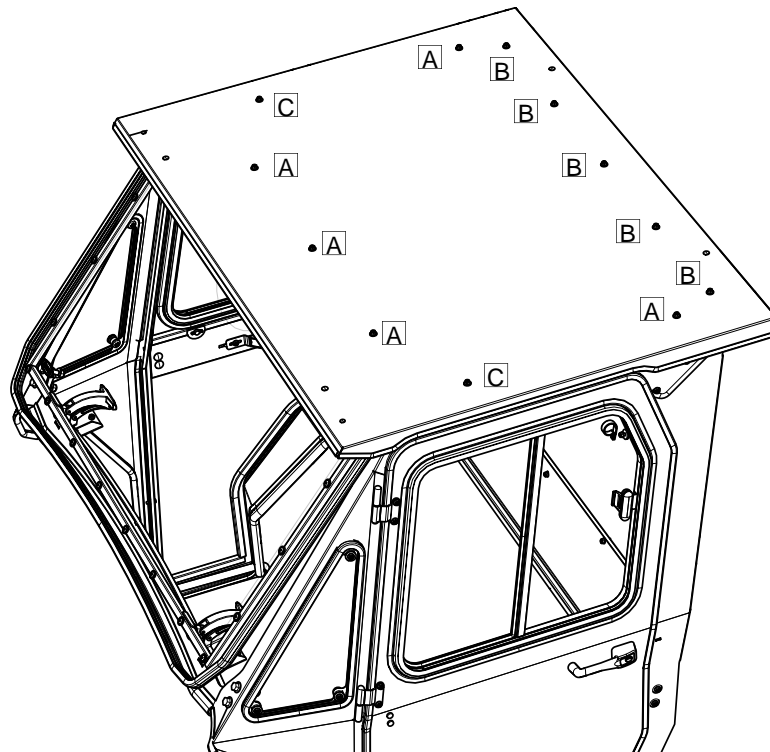

Fig. 8.2 Roof Fasteners
**8.2** Secure the Roof to the ROPS and cab components with 1/4-20 x 3/4" screws, nylon washers, 1/4-20 nuts. The Nylon washers shall be on top of the roof. See location A in figure 8.2. Do not fully tighten.
**8.3** Secure the Roof to the Upper Rear Panel with 1/4-20 x 3/4" screws, nylon washers, steel washers, rubber washers, 1/4-20 nuts. The Nylon washers shall be on top of the roof, the rubber washer shall be in contact with the polycarbonate of the Upper Rear Panel, and the steel washer outside of the rubber washer. See location B in figure 8.2. Do not fully tighten.
**8.4** Secure the Roof to the Headers with 1/4-20 x 2-1/2" screws, nylon washers, 1/4-20 nuts. The nylon washers shall be on top of the roof. See location C in figure 8.2. Do not fully tighten.